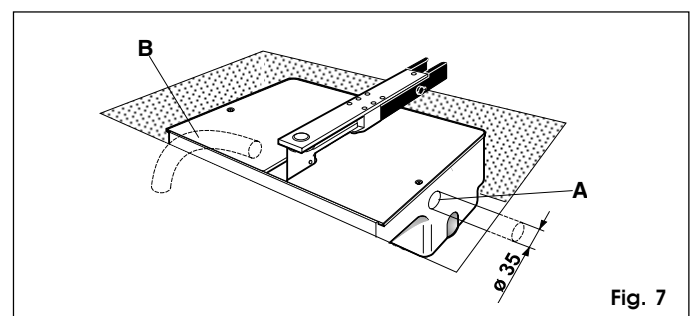

Fig. 7
3) Lay down a PVC tube of diameter 35 mm through which to pass a 4 core electrical cable. The tube must reach from the box the control unit (fig. 7 ref.A). Lay a second tube to drain off rain water, from the box to the nearest drain (fig. 7 ref.B).